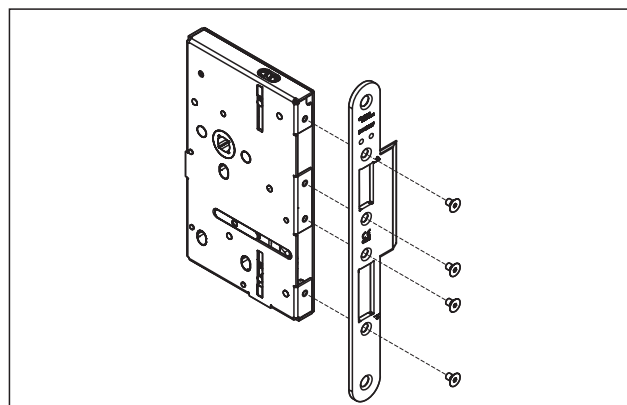

Fig. 36 Screw on forend
2. If necessary, screw the forend to the lock (Abb. 36) with 1.5 Nm according to the DIN direction of the door.